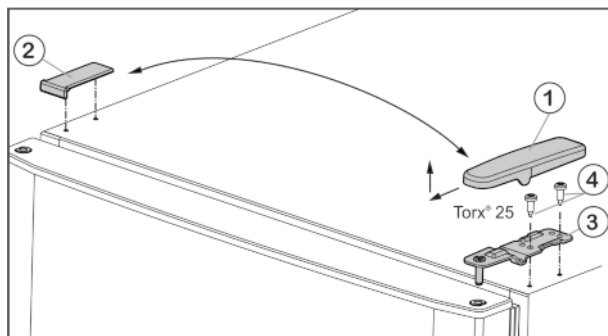

Fig. 4
- ▶ Pull off the cover Fig. 4 (1) forwards and upwards.
- ▶ Lift off the cover Fig. 4 (2).
- ▶ Unscrew the upper turn hinge Fig. 4 (3)(2x Torx® 25) Fig. 4 (4) and lift it off.
- ▶ Insert the upper turn hinge *Fig. 4 (3)* in the door on the new hinge side.
- ▶ Screw in the upper bearing block **tightly (with 4 Nm)** (2 x Torx® 25) *Fig. 4 (4)*. Use a cordless screwdriver if necessary.
- ▶ Fit the cover *Fig. 4 (1)* on the opposite side by sliding it rearwards and latching it into place.
- ▶ Press the cover *Fig. 4 (2)* on the opposite side down into place until it latches.